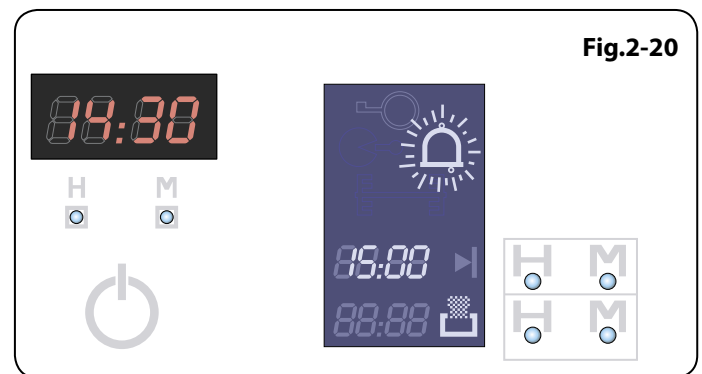
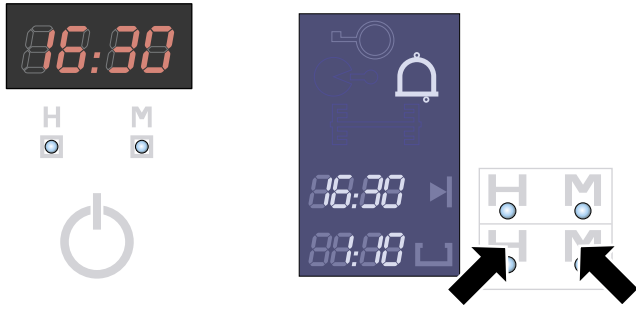

Fig.2-21
Fig.2-22
2. Set the *'cook time'* to 1:10 (**Fig.2-21**) and the *'stop time'* to 18:00 (**Fig.2-22**).